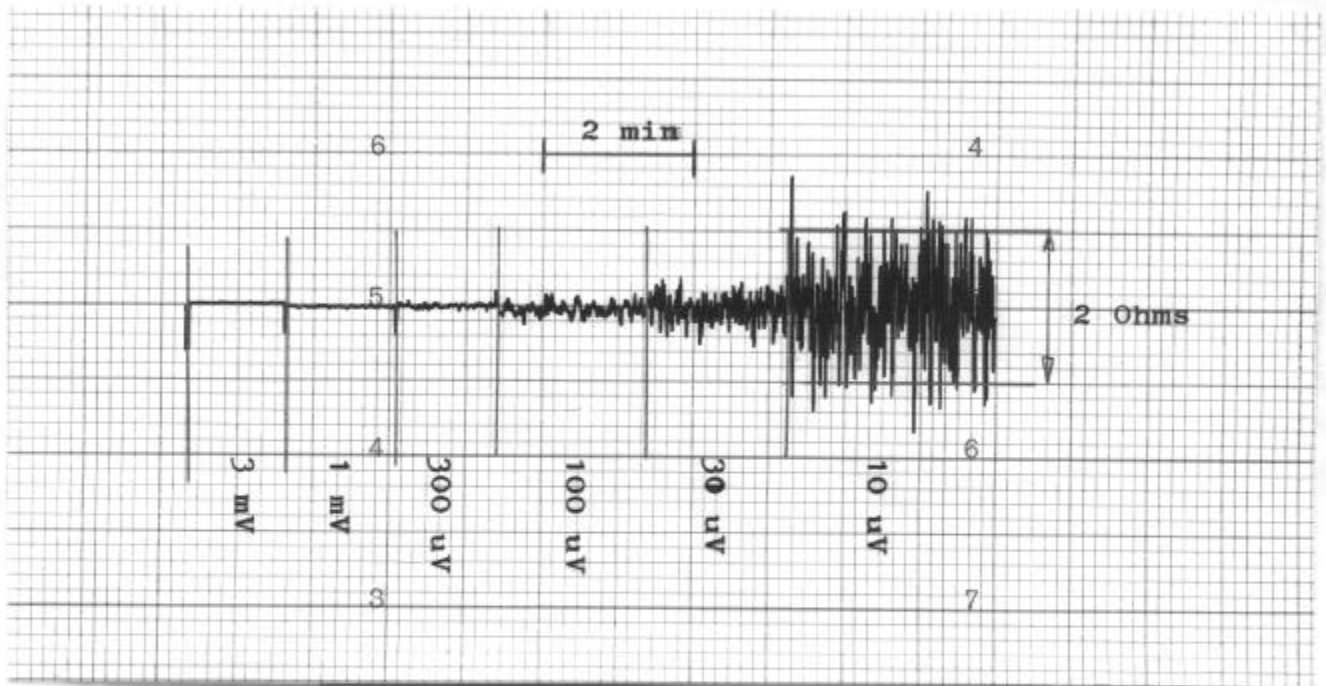

FIG 2-1: Typical noise graph
- B) **Without computer interface:** Connect a chart recorder to the deviation output and center the pen with REFERENCE potentiometer (highest excitation range). Then decrease excitation step by step and estimate the center lines of each record. If center lines deviate from the 3 mV line, re-adjust the corresponding excitation ranges. See also Fig 2-1, page 13.